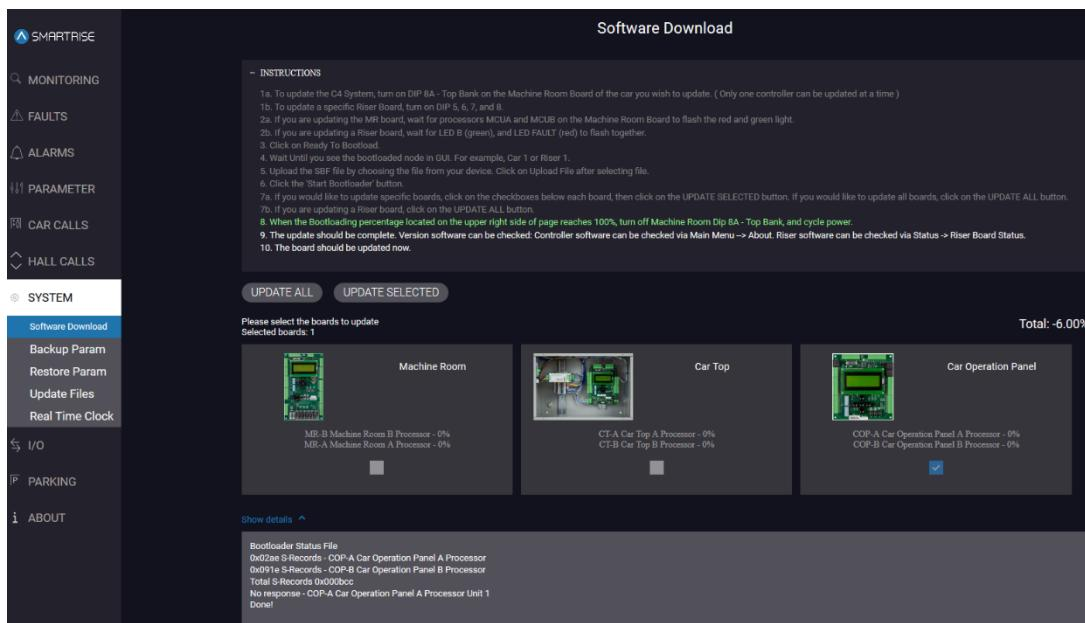

Figure 41: SYSTEM Screen – Software Download – No Response
3. When all boards are selected to be updated and a board is not present, the system will continue to communicate then times out. A no response message is displayed in the Show Details display. See Figure 41.